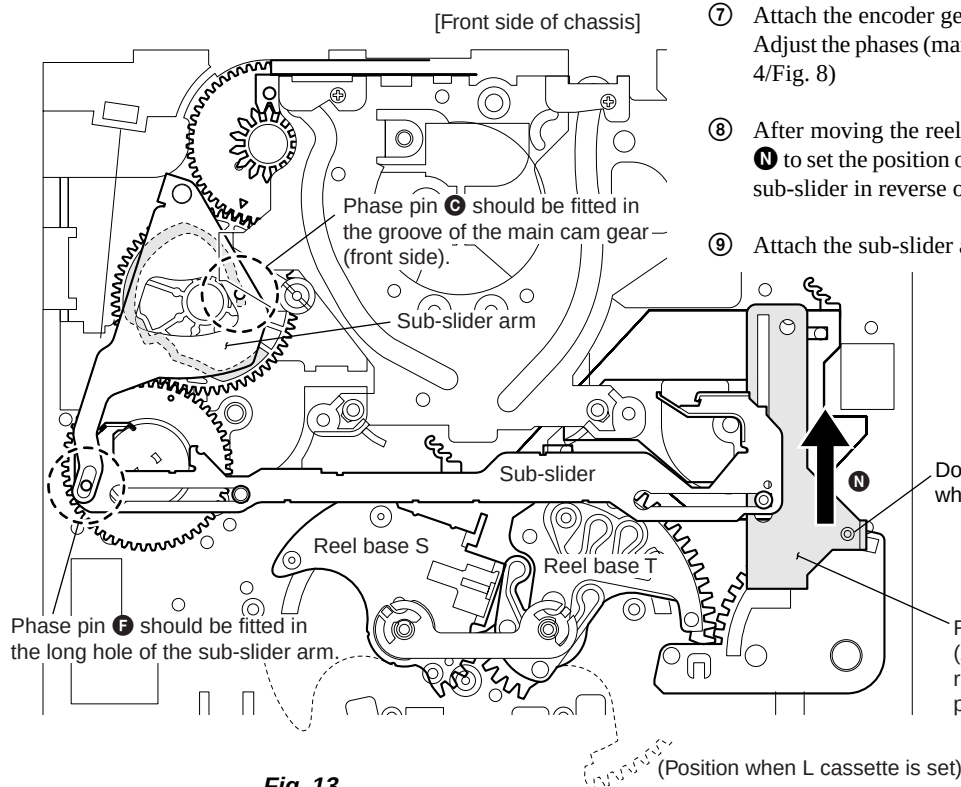

Fig. 13
- ⑧ After moving the reel selector slider in the direction of arrow **N** to set the position of the reel base to “L cassette”, attach the sub-slider in reverse order while referring to Fig. 3. (Fig. 13)
- ⑨ Attach the sub-slider arm. (Fig. 1/Fig. 13)